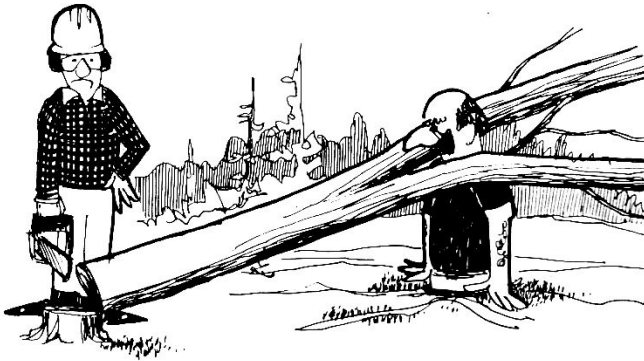

FIGURE 11A
24. Never fell a tree in a manner which will endanger persons or property. Avoid striking Utility lines - if contact is made with a Utility line, notify the Utility company immediately. See Figures 11A and 11B.